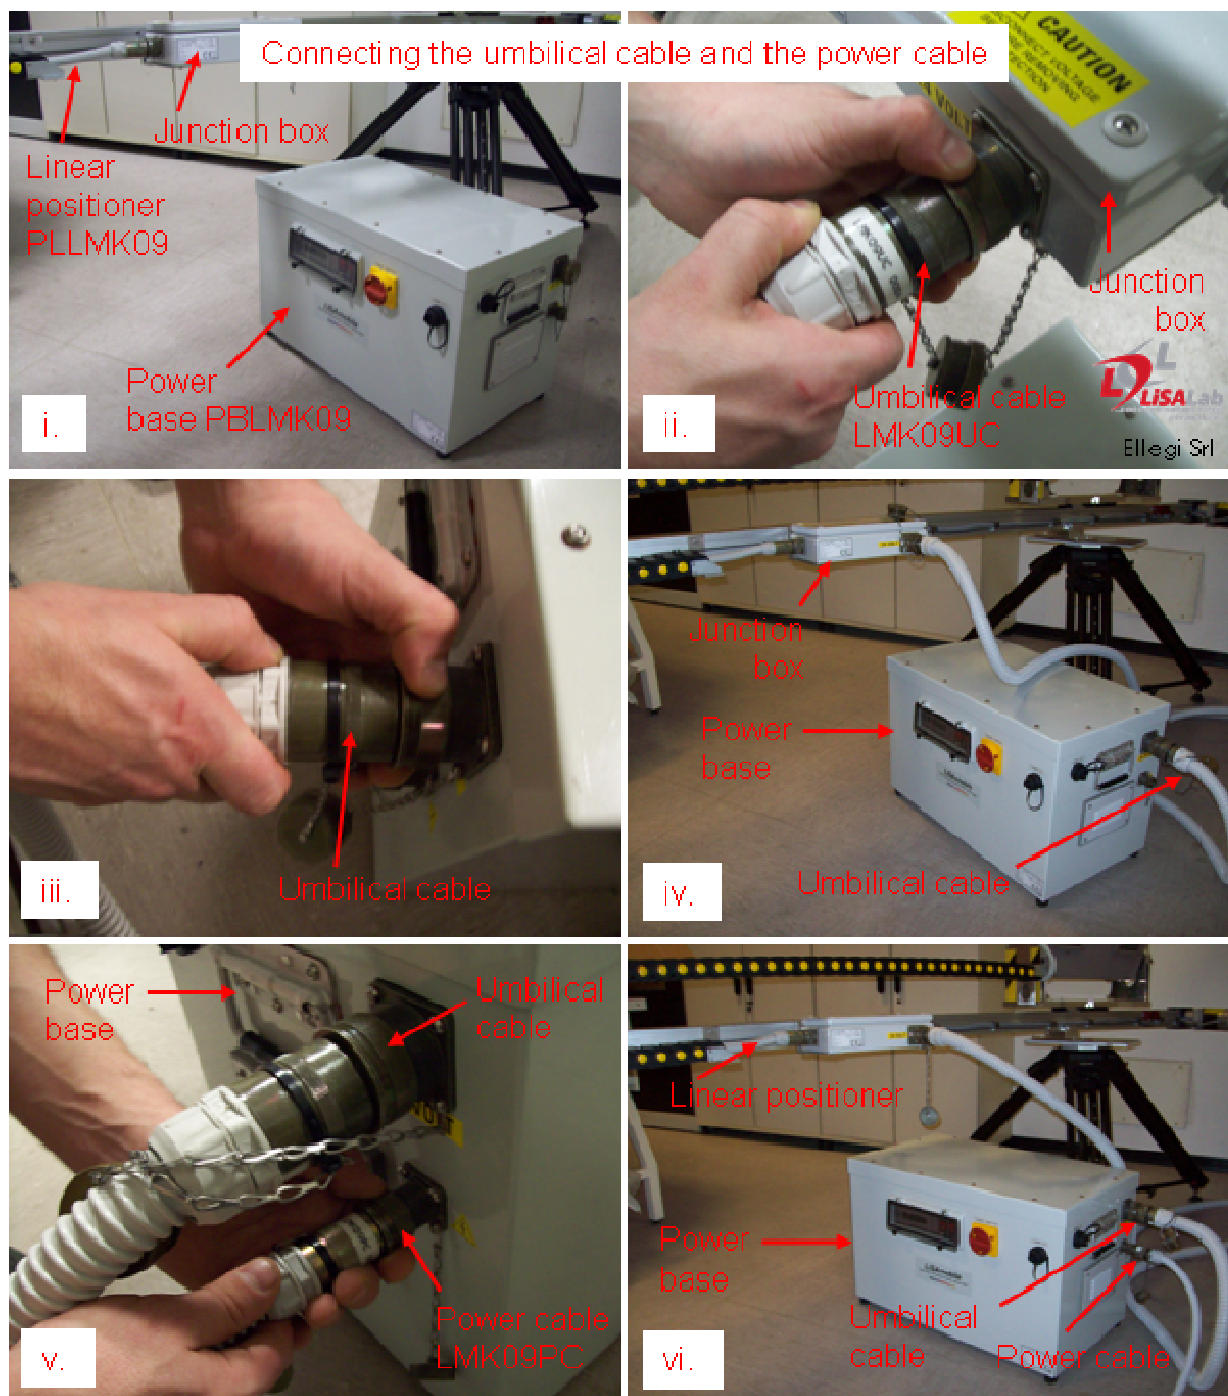

Figure 12: Steps 6 and 7 of the installation procedure. Connect the umbilical cable and the power cable.
7. Verify that the security switch of the power base and the two red switches near its display are switched off and connect the power base (PBLM) to a power line using the power cable (LMPC). Note: make sure that also the power cable is not stretched or tangled (Figure 12).